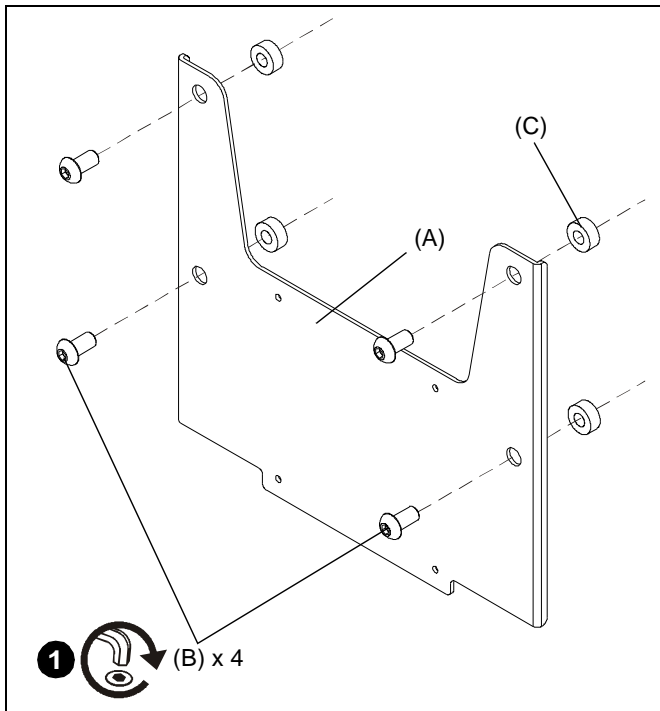

Figure 1
1. Attach interface bracket (A) to back of display using four M8 x 16mm buttonhead cap screws (B), four spacers (C) and the M5 hex key (D). (See Figure 1)